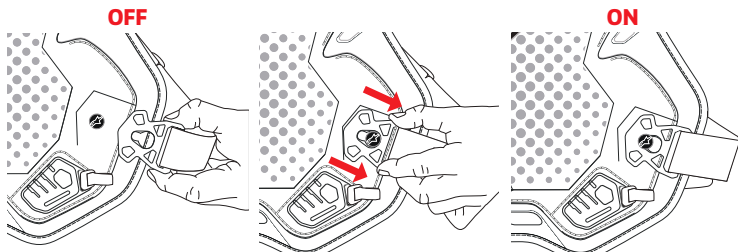

Figure 7: System Turns On When the Activation Buckle (2) is Fastened
To activate the System, the User simply needs to wear it and securely fasten the Activation Buckle (2), as illustrated in Figure 7. An internal sensor will automatically detect when the Activation Buckle (2) is closed, triggering the System to turn on.